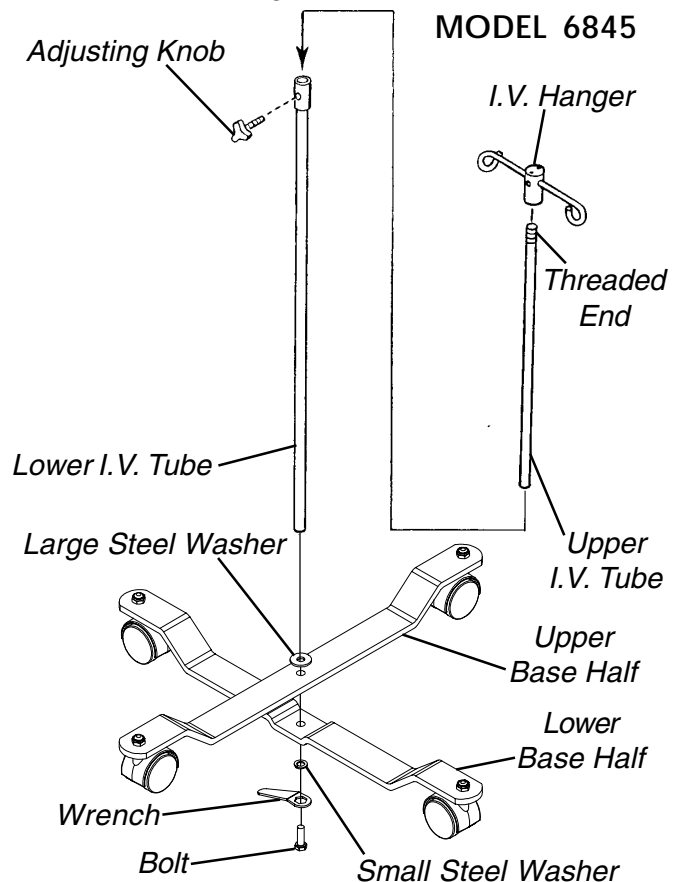

FIGURE 2 - ASSEMBLING THE I.V. STAND
## ASSEMBLING THE I.V. STAND (FIGURE 2)
1. Align the upper base half and the lower base half as shown in FIGURE 2.